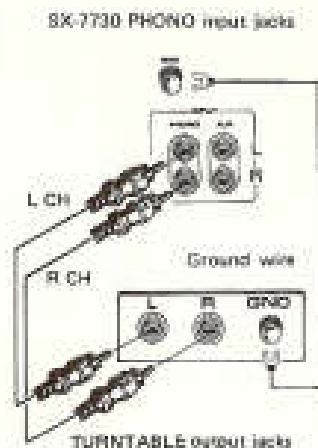

Fig. 7 - Connecting the SX-7730 to turntable.
A stereo turntable with a moving magnetic (MM) cartridge can be connected to the PHONO input jacks (Fig. 7).